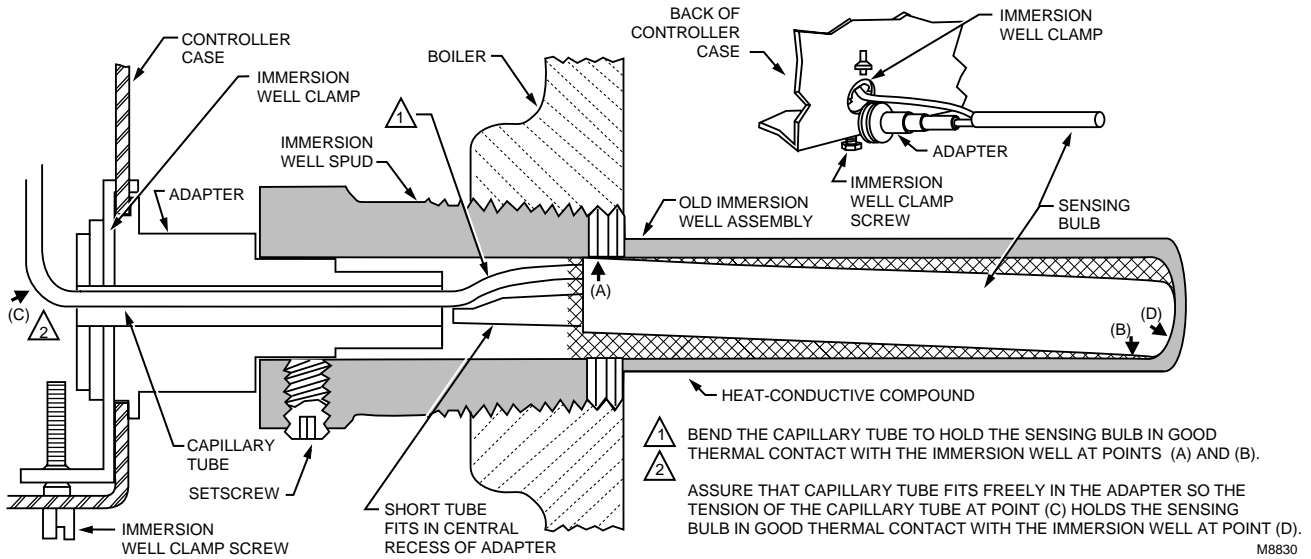

Fig. 4. Position of bulb in immersion well, and use of well adapter when required.
If the well does not fit snugly on the bulb, use the heat-conductive compound (furnished with TRADELINE® models) as follows: Fold the plastic bag of compound lengthwise and twist it gently. Then snip off the end of the bag and work the open end of the bag all the way into the well. Slowly pull out the bag while squeezing it firmly to distribute the compound evenly in the well. Insert the bulb all the way to the bottom of the well. Bend the tubing, if necessary, to hold the bulb against the bottom of the well and to hold the outer end of the bulb firmly in contact with the side of the well (Fig. 4). Wipe excess compound off the outer end of the well.
If the old well is suitable, use it and an immersion well adapter (see Accessories) for the installation; otherwise, refer to the standard mounting procedure. (Well assemblies for the TRADELINE® Aquastat® Relays must be ordered separately; refer to form 68-0040, Wells and Fittings for Temperature Controllers.) The adapter has a flange at the wide end that fits into the well clamp and is slotted lengthwise to accommodate both the capillary tube and the short length of tube extending from the bulb (Fig. 4).
- Insert the sensing bulb into the well as shown in Fig. 4. (Distribute heat-conductive compound prior to insertion.)